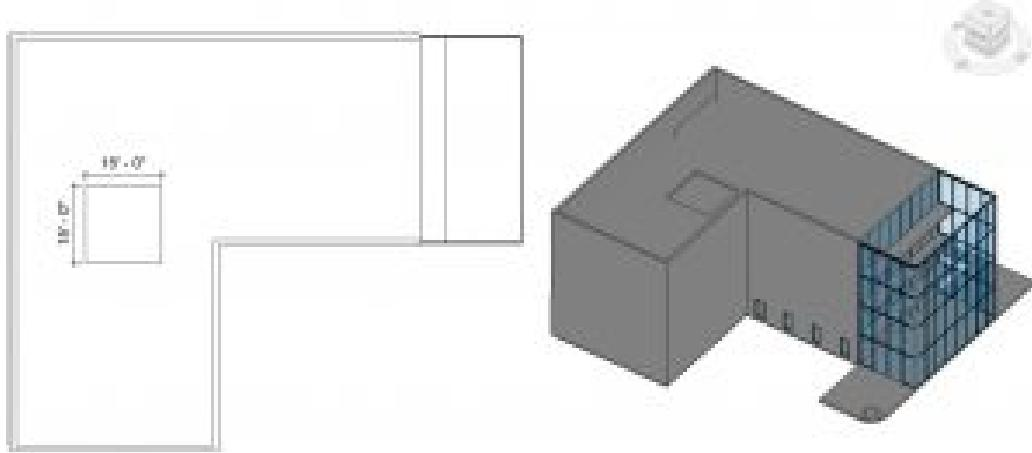

Figure 3.14 Opening by Face shown in plan view and 3D view
4. Draw a 15ft X 15ft square as shown in Figure 3.14
5. Use the move tool to center the opening as shown in Figure 3.14